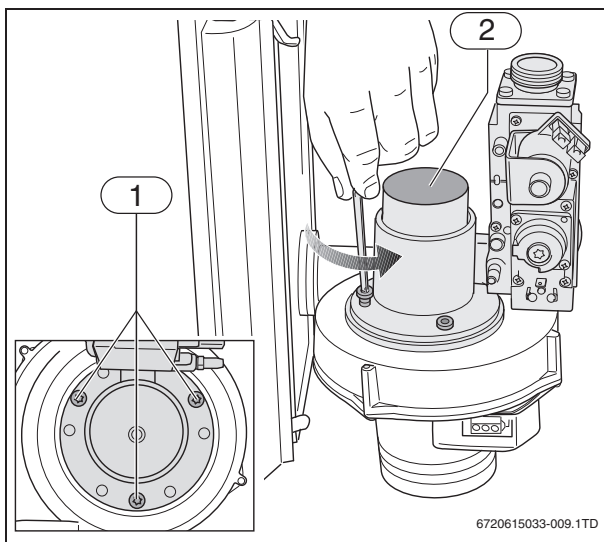

Fig. 8 Removing the screws and gas valve with venturi
- Undo the 3 screws (→ fig. 8, [1]) and remove the gas valve with the venturi from the fan unit (→ fig. 8, [2]).